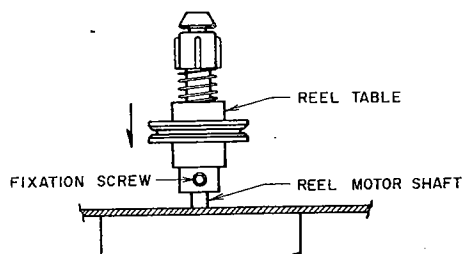

Fig. 5
3. REEL TABLE INSTALLATION POSITION ADJUSTMENT (Refer to Fig. 5)
As shown in Fig. 5, with reel table firmly and completely fitted on motor shaft, tighten fixation screw.